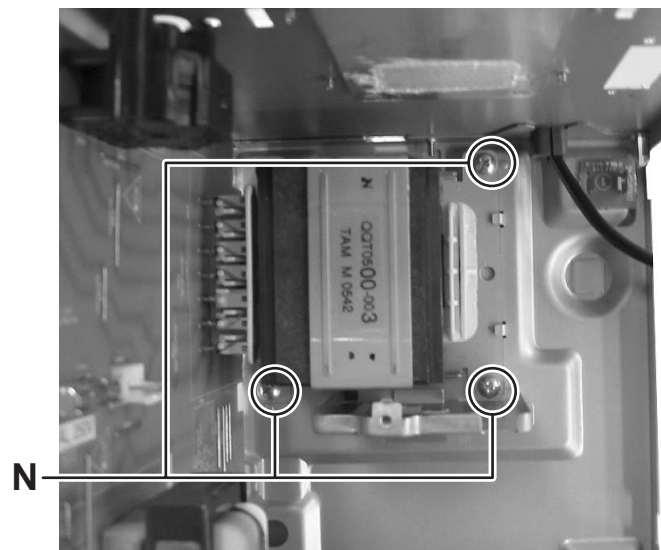

Fig.11
- (4) Remove the three screws **N** attaching the power transformer. (See Fig.11)
(See Fig.11 to 13)
- (1) Remove the yellow wire from solder part **q** of the CD servo board from upper side of traverse mechanism. (See Fig.11)
- (2) Remove the white wire from solder part **r** of the CD servo board. (See Fig.11)